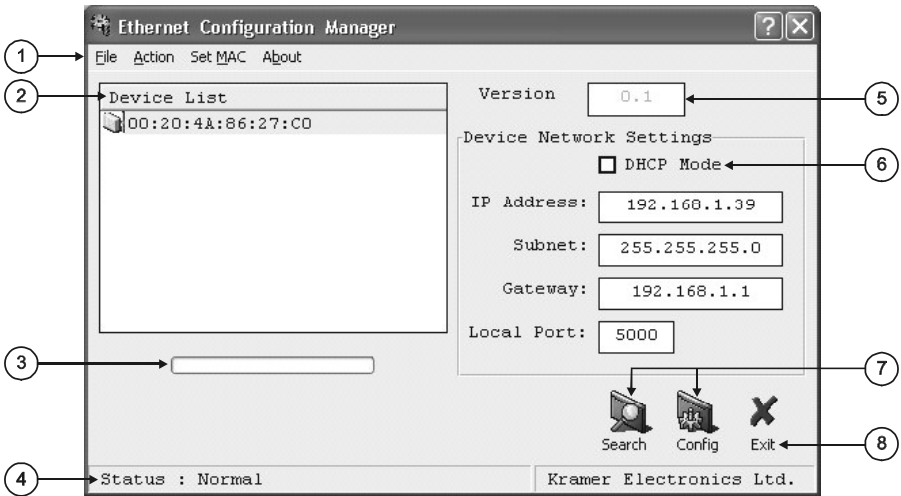

Figure 7: The Ethernet Configuration Manager Window
3. Click the appropriate shortcut in the Start menu's Programs folder. The Configuration Manager window (see Figure 7) opens.